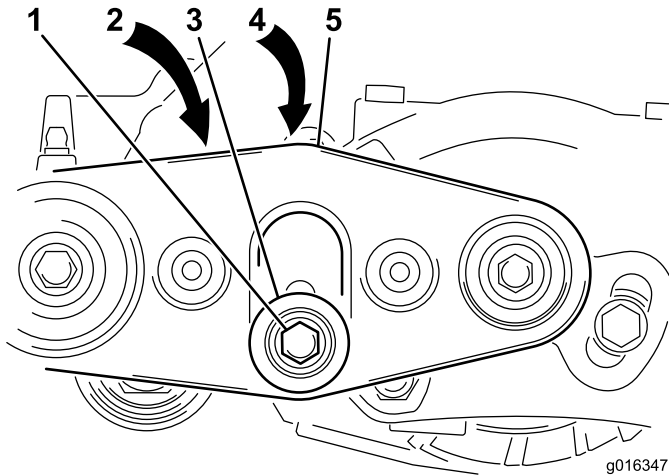

Figure 21
- A. Loosen the hex bolt and the nut securing the idler pulley to the right brush support; see Figure 21.